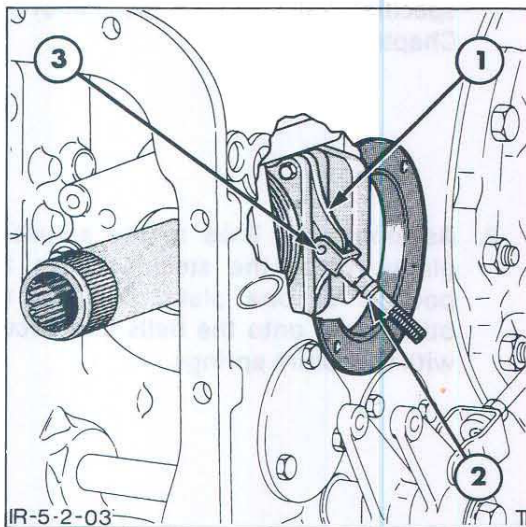

Figure 3
5. Disconnect the actuator rod clevis pin and remove the actuator rod from the links, Figure 3.